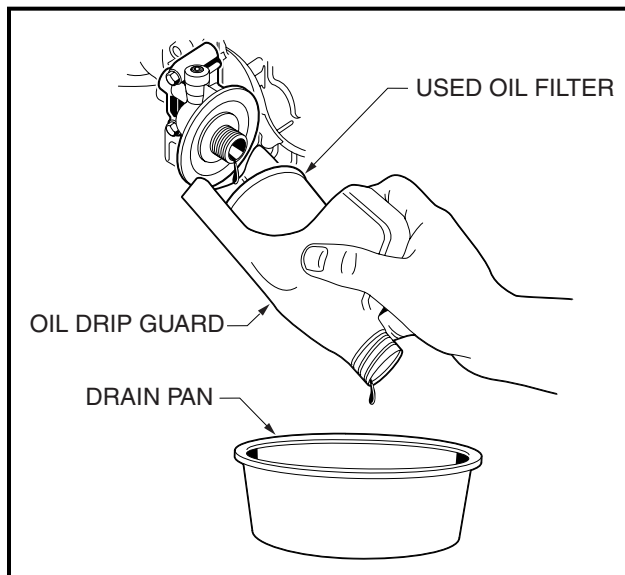

Figure 24 Remove Engine Oil Filter
**NOTE:** An oil drip guard can be used to prevent excess oil from dripping onto the engine base plate. Use an empty quart (0.946 L) container and cut the bottom off at an angle, then slide the open area of the container up and under the oil filter before removal. Position the port of the plastic container so oil will be directed into the oil pan (**Figure 24**). A drip guard can be made by folding a piece of cardboard, thin metal, or plastic under the oil filter, forming a channel to direct the filter port oil into the drain pan.